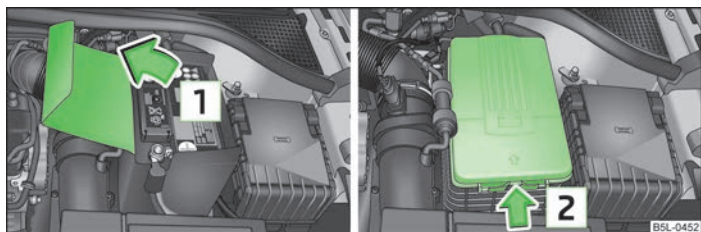

Fig. 146 Engine compartment: Polyester cover of the vehicle battery/plastic cover of the vehicle battery
**1** » Fig. 146 or in a plastic cover  **2** » Fig. 146.
» Open the battery cover in the direction of the arrow **1** or press the interlock on the side of the battery cover in the direction of the arrow **2** » Fig. 146, fold the cover up and remove.
**1** » Fig. 146 is inserted between the battery and the side wall of the battery cover.